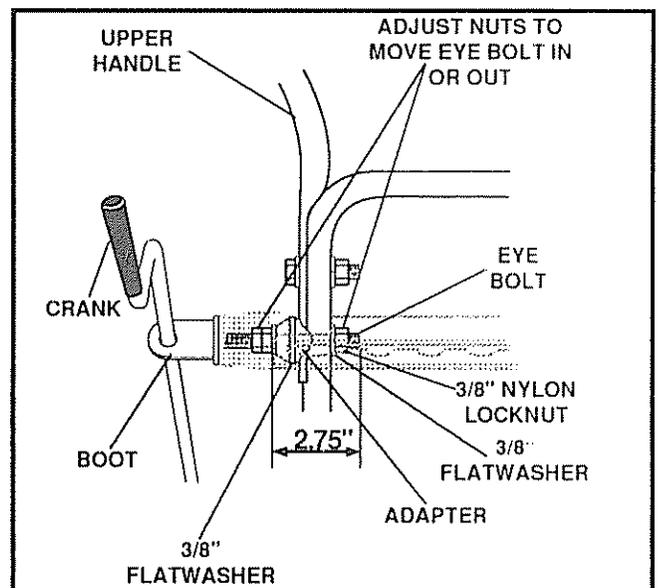

FIG. 4B
- Remove the 3/8" nylon locknut and flatwasher from the eye bolt assembly (on the chute crank assembly removed earlier). Check to make sure the two 3/8" jam nuts are tight. The jam nuts should be 2.75 inches from the end of the eye bolt. (See Fig. 4B)
- Install eye bolt through lower hole in the left hand side of the handle and shifter plate (See Fig. 4B)
- Install the 3/8" flatwasher and the 3/8" nylon locknut loosely on the eye bolt as shown in FIG. 4B.